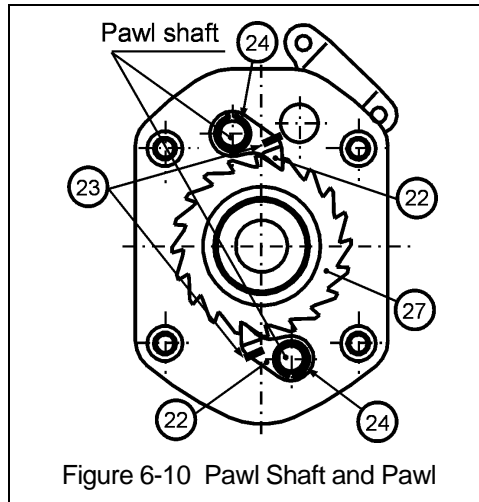

Figure 6-10 Pawl Shaft and Pawl
- 1) Lightly apply (G2) grease to the Pawl Shaft and (22) Pawl. Refer to Figure 6-10.
- 2) **CAUTION** Use a minimal amount of grease on (22) Pawl to avoid getting grease on the friction surfaces of the brake.
- 3) Fasten two sets of (23) Pawl Spring and (22) Pawl with (24) Snap Ring.